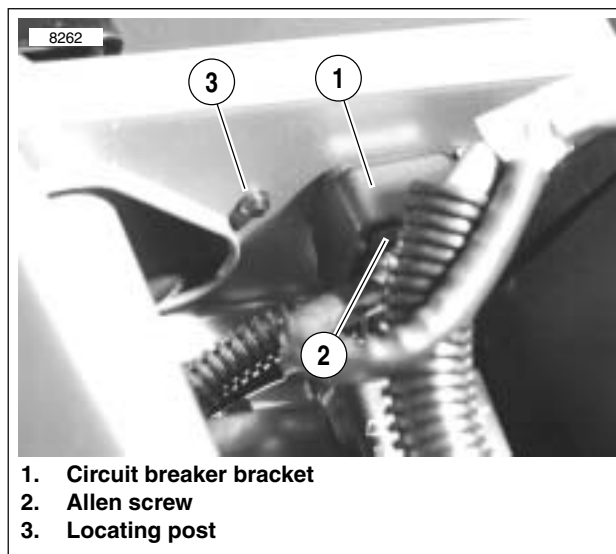

Figure 7-12. Bank Angle Sensor Installation
2. See Figure 7-12. Position bank angle sensor in mounting position on circuit breaker bracket mounting screw. Make sure sensor locating post engages hole in trunk to ensure proper alignment of sensor.